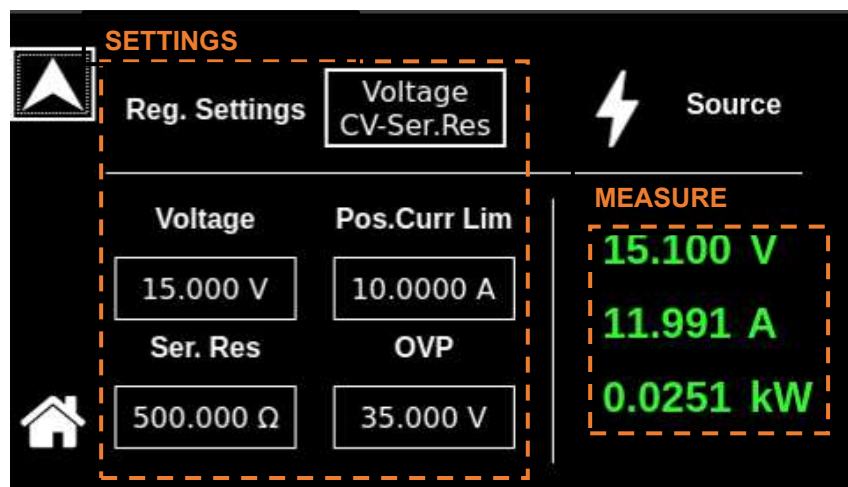

**Figure 9-10. Dashboard Screen in CV-Ser. Res Regulation setting**
**a) Voltage - CV-Ser. Res** is shown in Figure 9-10,